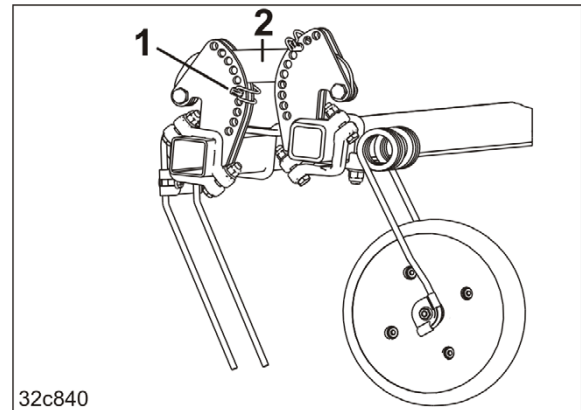

Fig. 180
3. Change the pitch of the tines to the ground by repositioning the safety pin for the tube (Fig. 180/1)
- o below the link (Fig. 180/2)
The deeper the safety pin for the tube (Fig. 180/1) is inserted in the adjuster segment, the flatter the pitch.